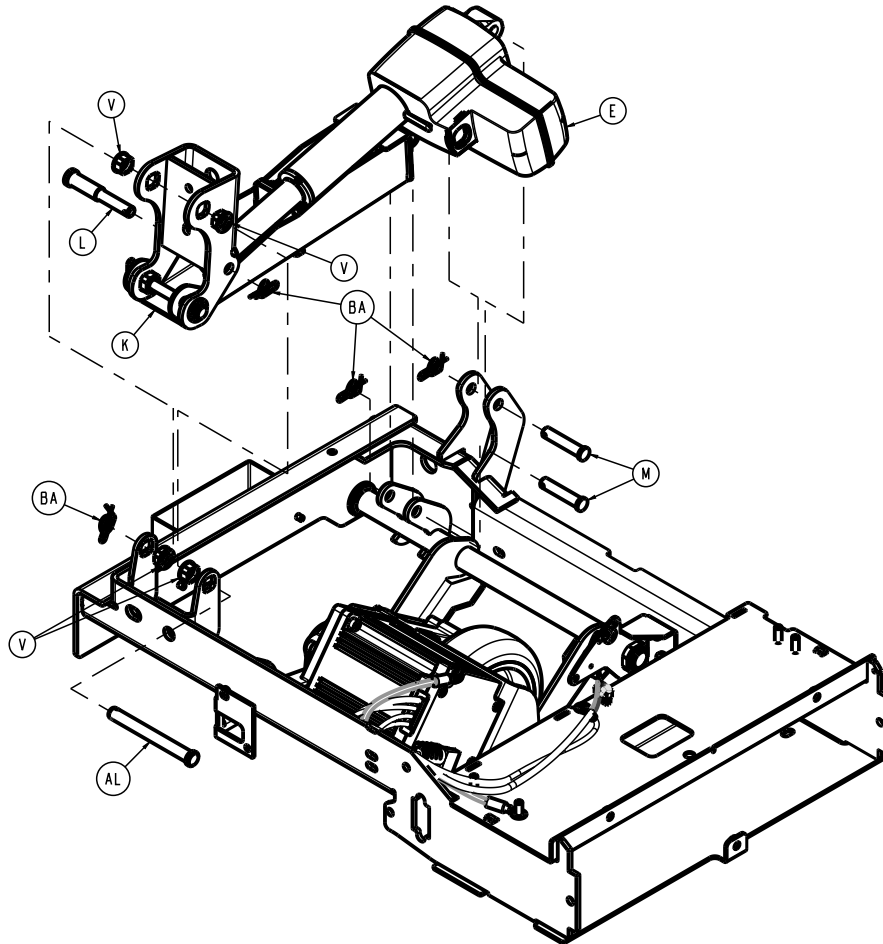

Figure 69 – Removing the Zoom actuator
9. Using needle nose pliers, remove the rue ring cotter (BA) from the actuator ram pin (L) and clevis pin (AL) (Figure 69). Save the rue ring cotter.
10. Lift up on the **Zoom** motor drive wheel and remove the clevis pin (AL) and actuator ram pin (L) (Figure 69). Save the clevis pin and ram pin.
11. Using needle nose pliers, remove the rue ring cotter (BA) from the actuator base pin (M) (Figure 69). Save the rue ring cotter.
12. Holding the actuator, remove the actuator base pin (M) (Figure 69). Save the base pin.
9. Using needle nose pliers, remove the rue ring cotter (BA) from the clevis pin (AL) (Figure 69). Save the rue ring cotter.
10. Lift up on the **Zoom** motor drive wheel and remove the clevis pin (AL) (Figure 69). Save the clevis pin.